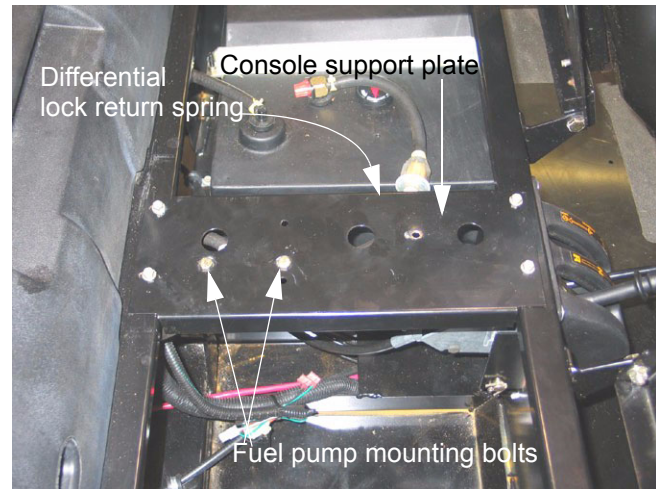

Figure 4.2
- 4.2. To gain access to the gear shift control, tilt both seats forward, and remove the console/cup holder using a 7/16" wrench. See Figure 4.2.